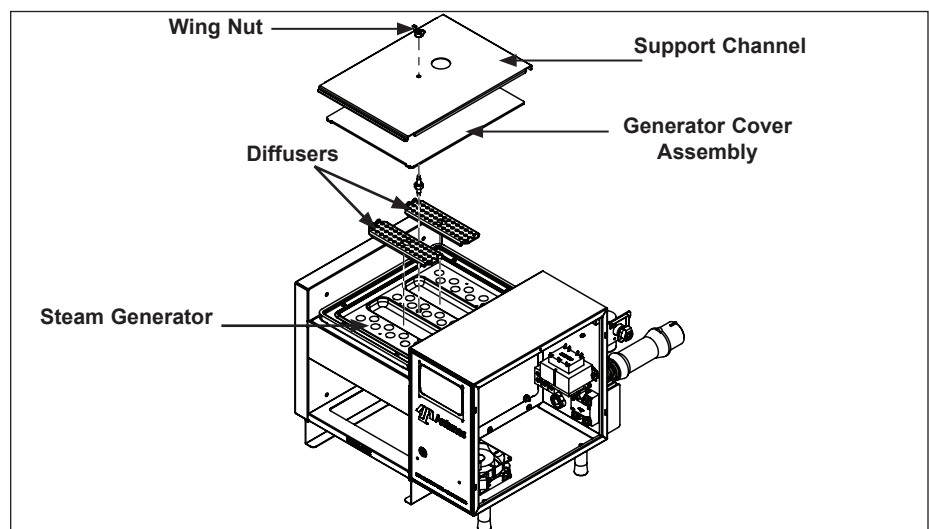

Figure 5. Steam Generator
5. Remove wing nut and generator cover assembly, generator gasket, and diffusers (Figure 5).